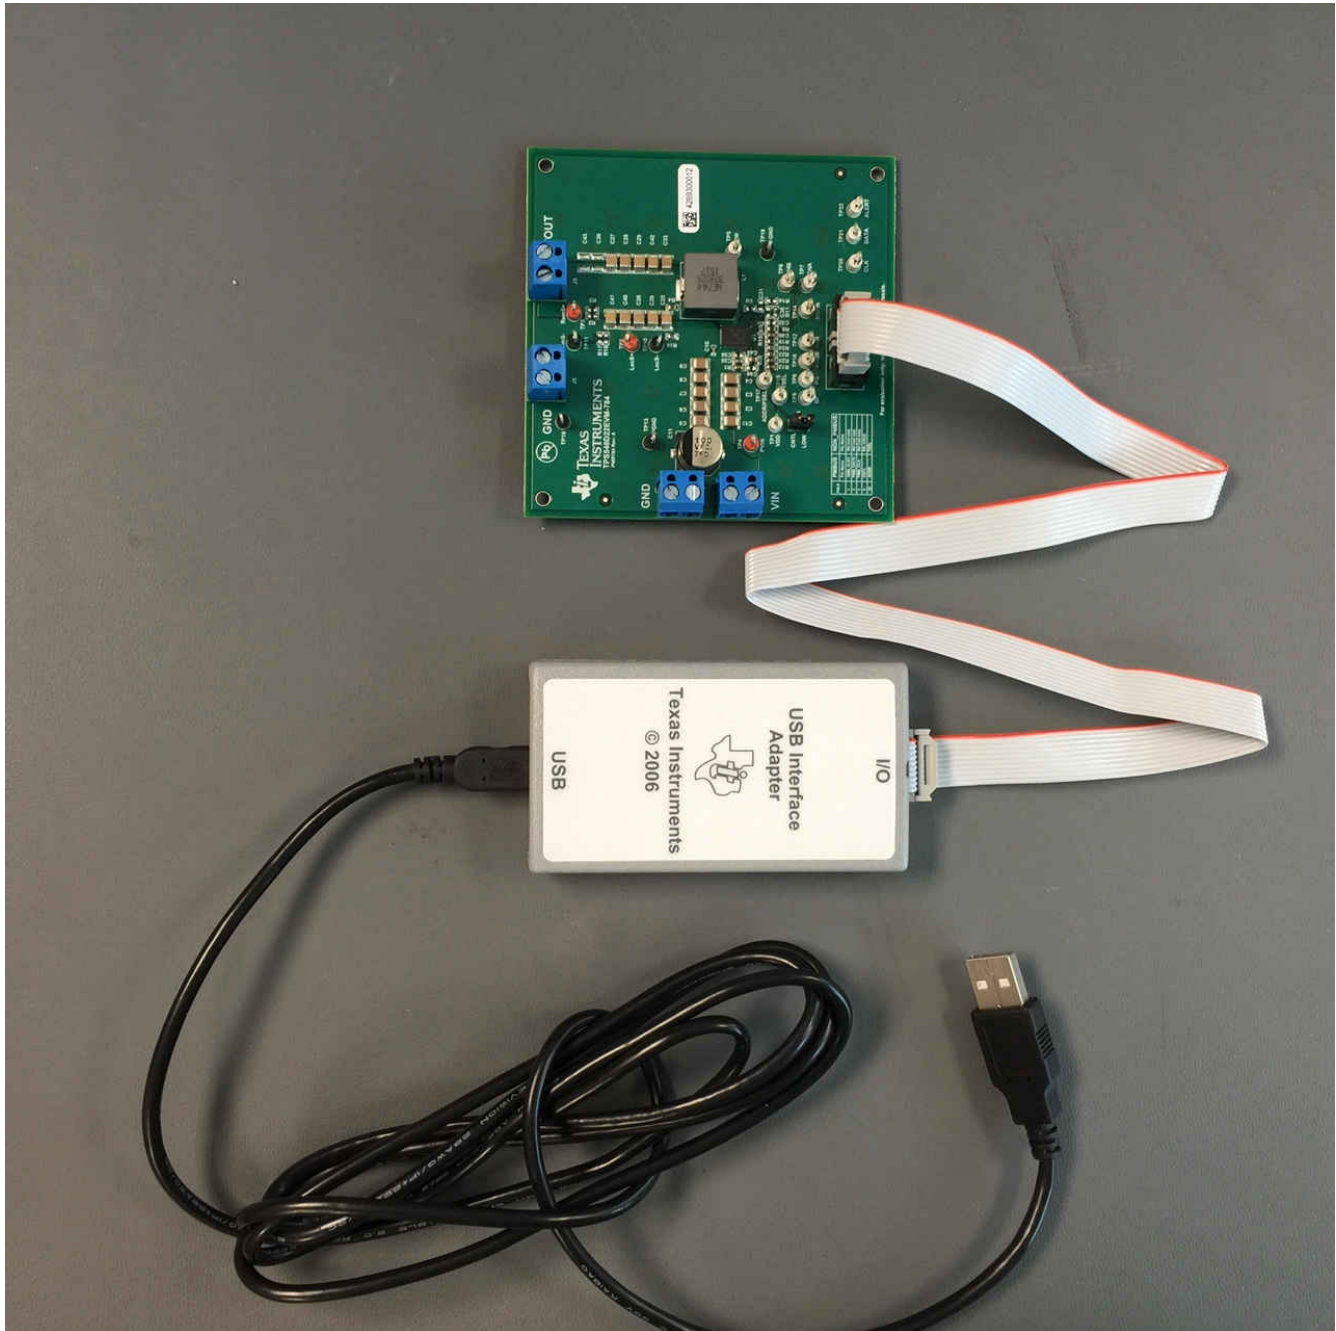

Figure 7-3. EVM and USB Interface Adapter
Figure 7-3 illustrates the EVM and USB interface adapter.
4. Connect the USB interface adapter as shown in Figure 7-3.